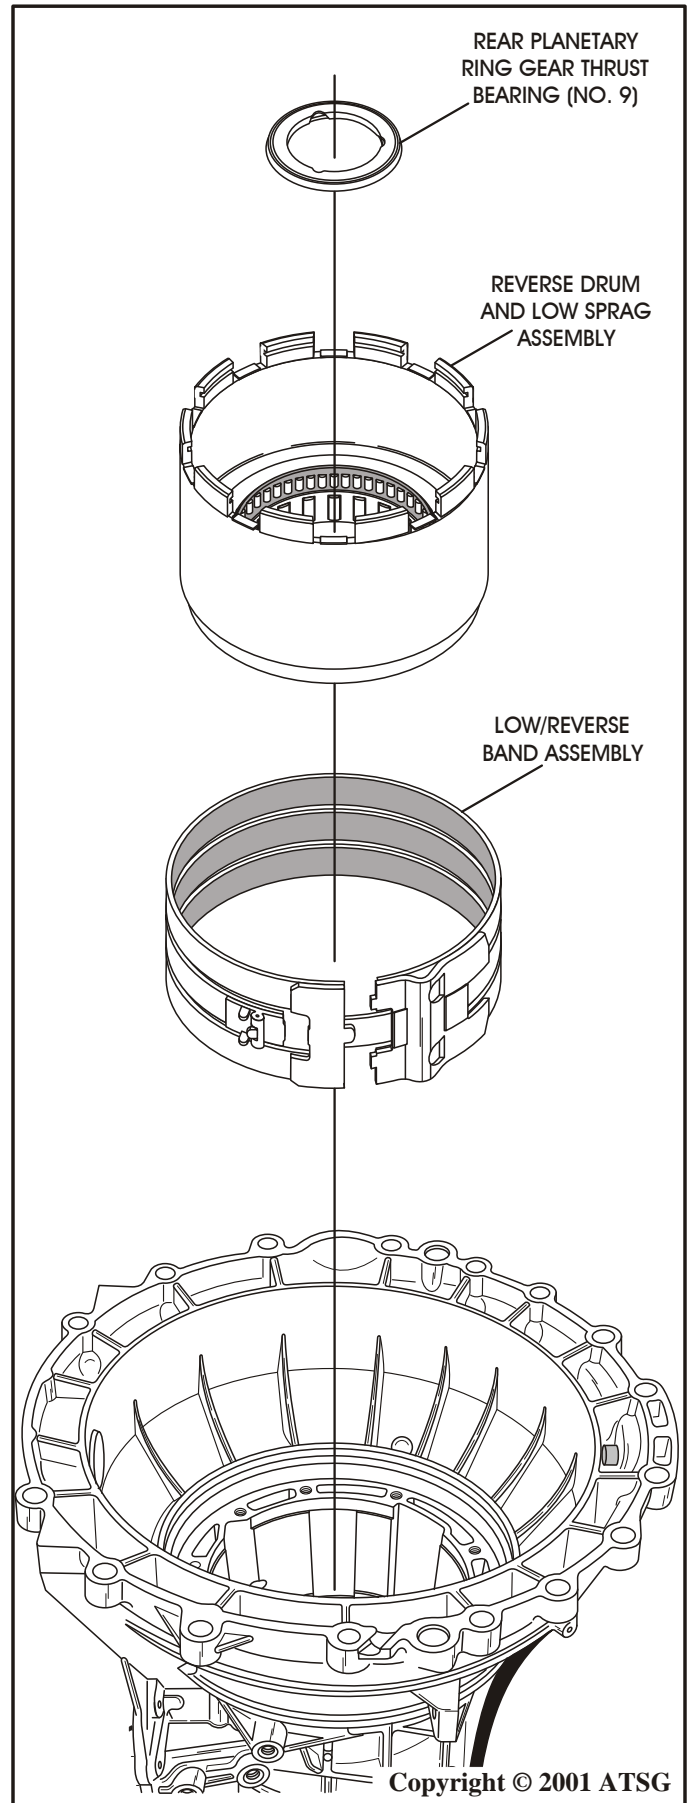

Figure 53
70. Remove reverse drum and low sprag assembly by rotating and lifting drum out, as shown in Figure 53.
71. Remove and tag the number 10 thrust bearing for I.D. as shown in Figure 53.
72. Remove the low/reverse band assembly from the case, as shown in Figure 53.